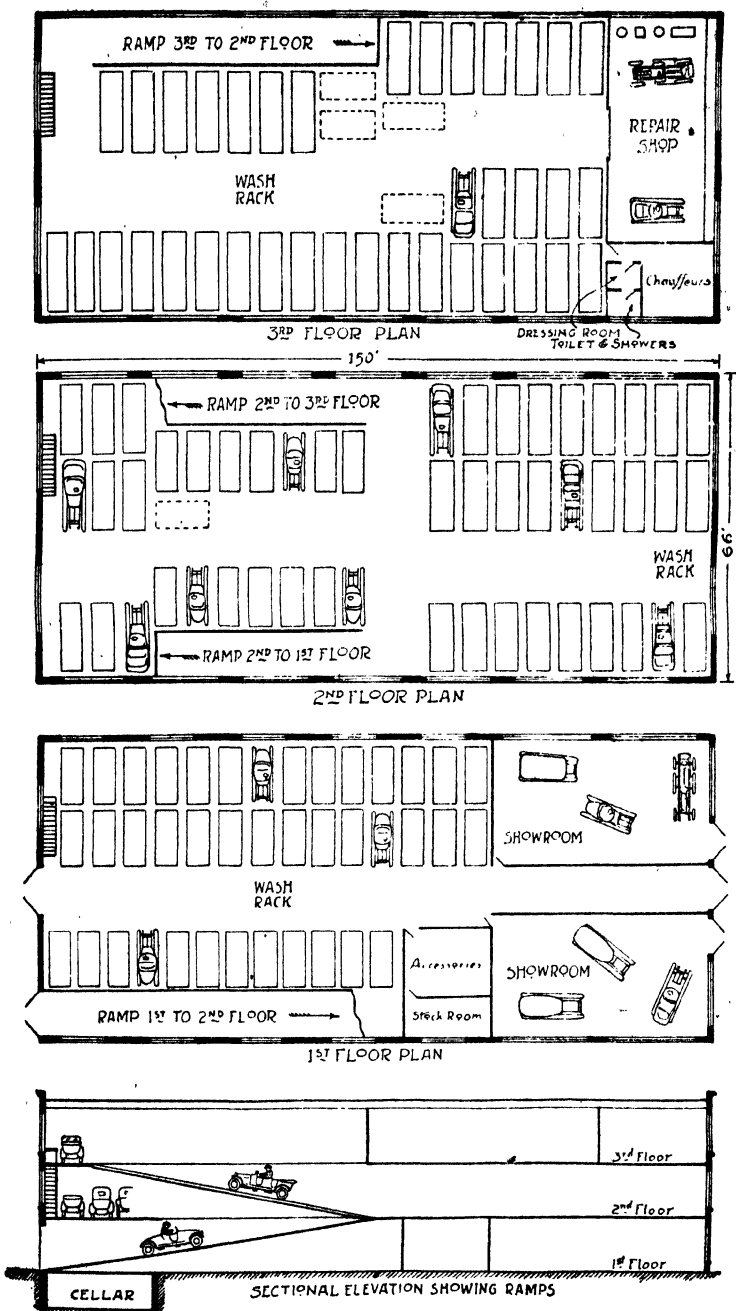

Fig. 21. Floor Plans and Sectional Elevation of Very Large Three-Story Garage Using Ramps
*Layout 15.* Another very large garage, interesting by reason of having ramps up to the third floor, is shown in Fig. 21. Not that